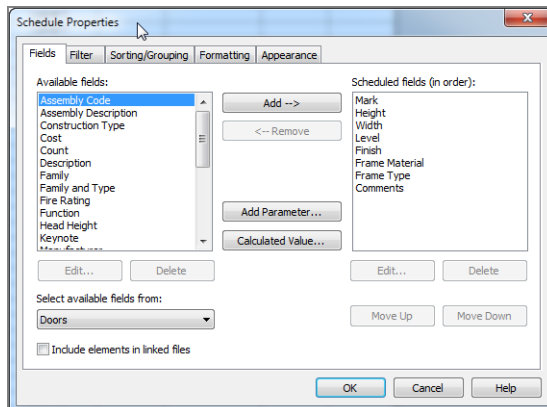

FIGURE 11.3: Adding the fields to produce a door schedule
the Available Fields area to the left, and click the Add button in the middle of the dialog to move the Mark field to the right, as shown in Figure 11.3.
- 5. Add the rest of the following fields using the same method (see Figure 11.3):